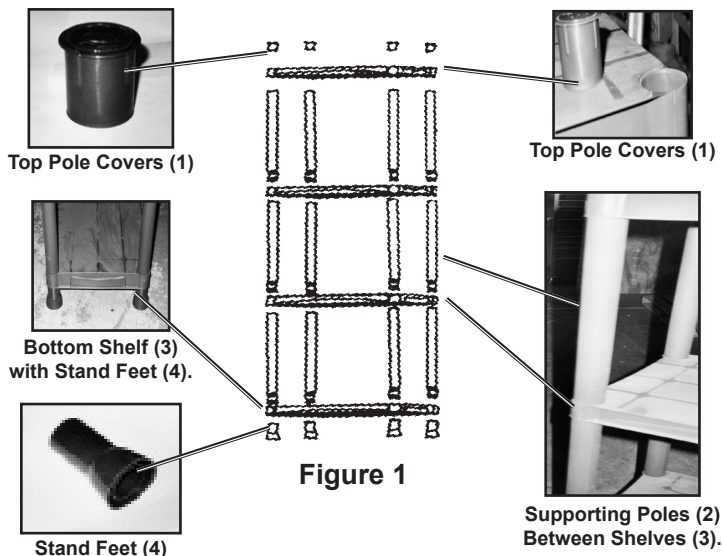

Figure 1
1. Attach each Shelf (3) with the Supporting Poles (2) as shown in **Figure 1**. It is recommended that you start assembling bottom shelves first and work upward.
2. On the bottom Shelf (3), push in the four Stand Feet (4). **See Figure 1**. Stand Shelf Rack upright. Tap on the Top Pole Covers (1) in the holes in the top Shelf (3) for a finished look. Check to see that the Shelf Rack is level.